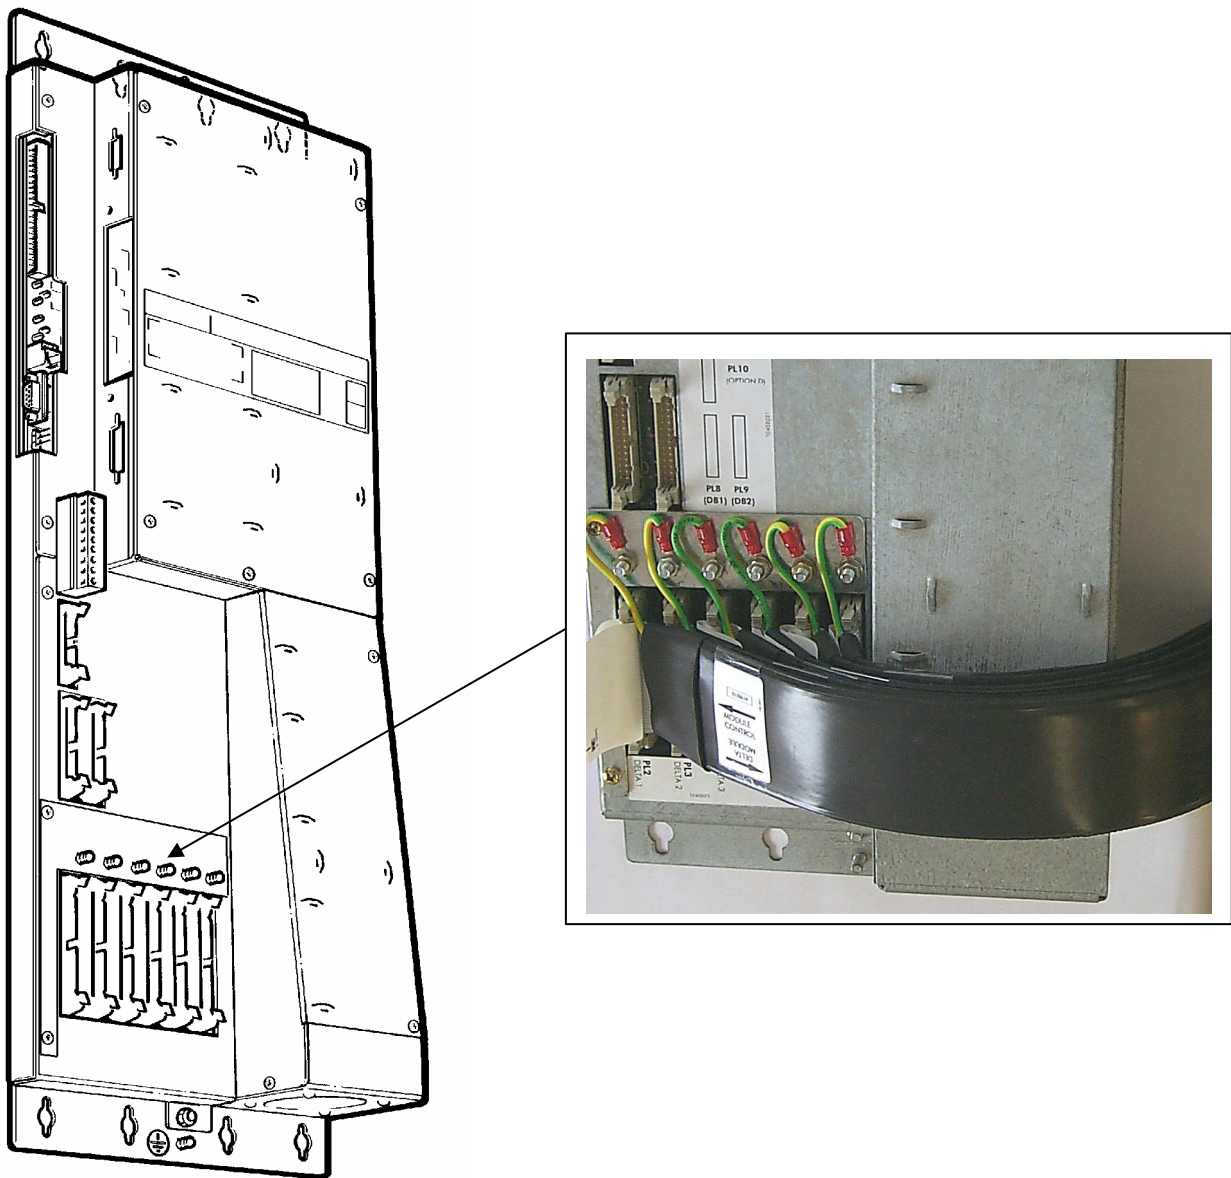

Figure 2 : Completed assembly of 6 screened ribbon cables into MV3000e Controller (and showing use of the earthing plate)
- 1.3 Fit the screened ribbon cable(s) into the correct connector(s), PL2 to PL7 as applicable. Ensure that the end of the ribbon cable that is connected to the controller has the black jacket all the way up to the connector, as shown in Figure 2.
See Figure 2 for a fully fitted MV3000e Controller.